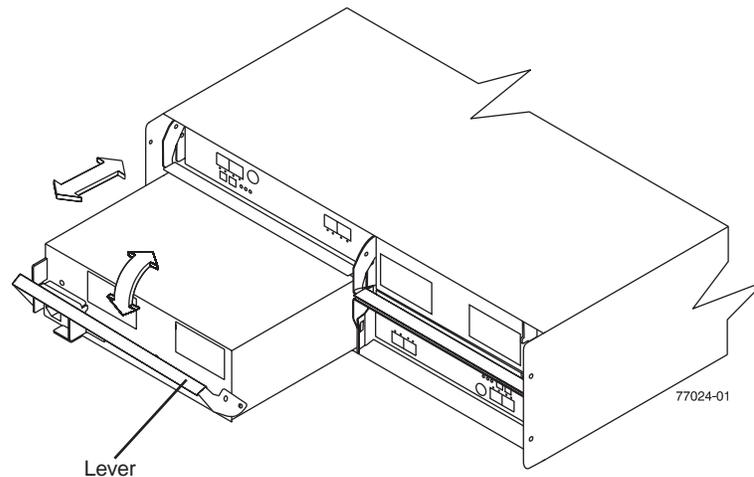

Figure 47. Replacing a power supply and fan unit
Use the following procedure to replace a power supply and fan unit. Figure 47 on page 93 illustrates removing and inserting a unit.
11. Slowly pull the lever away from the chassis to remove the power supply and fan unit, as shown in Figure 47 on page 93.